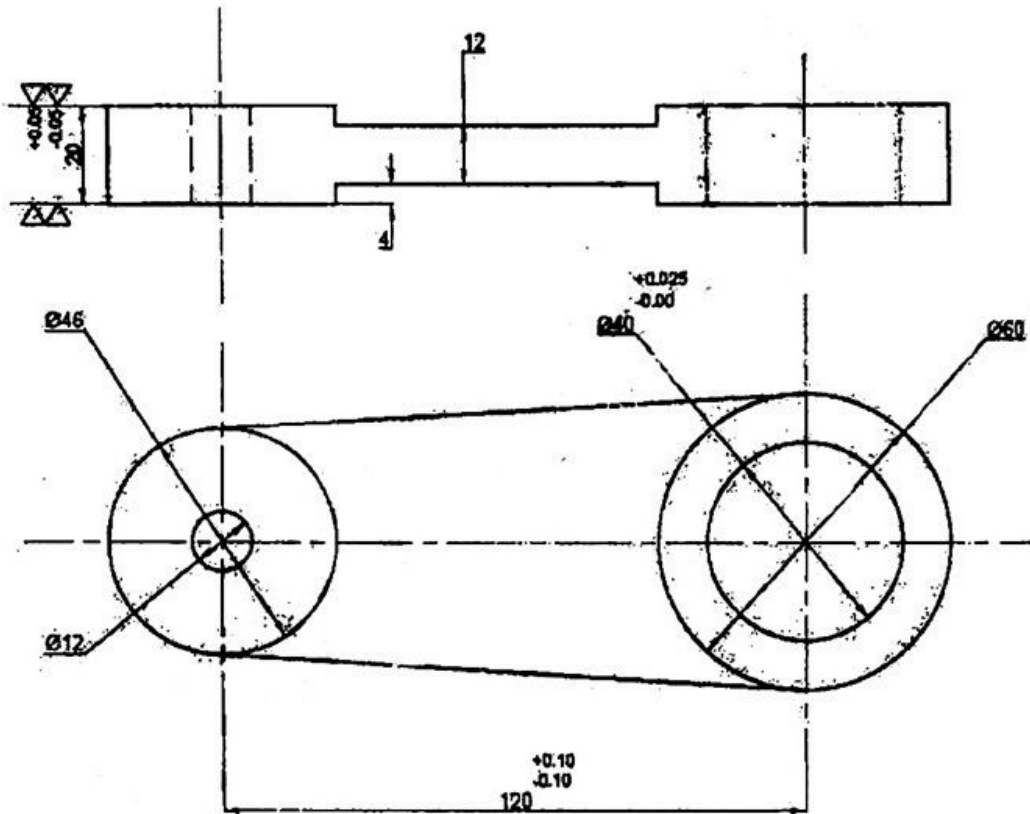

Fig. 1
- (a) Write down sequence of operations for the component shown in Fig.1. 5